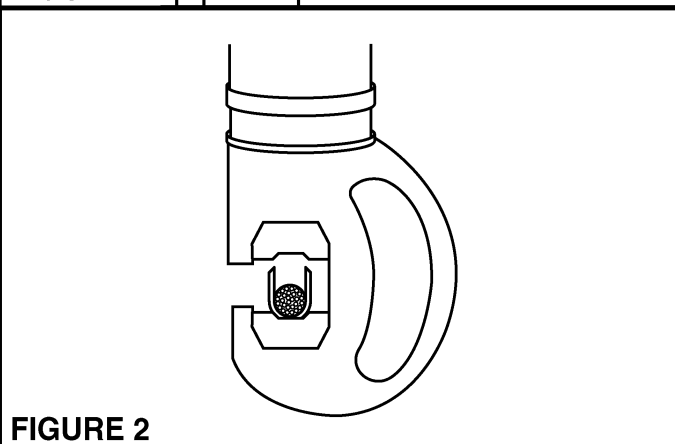

FIGURE 2
6. Place connector on one of the die halves as shown in Figure 2.